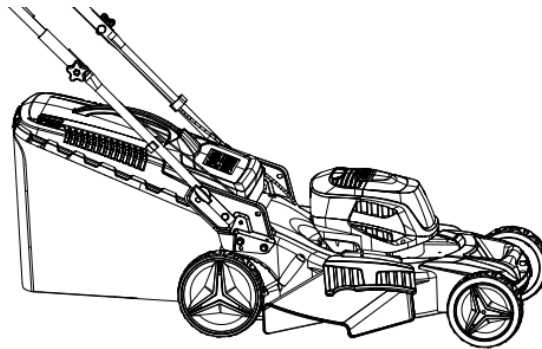

Fig. 2B
2. Pivot the lower handle from the storage position to the working position and then screw the fastener, which fixes the lower handle into the unit body. (Fig.2B)